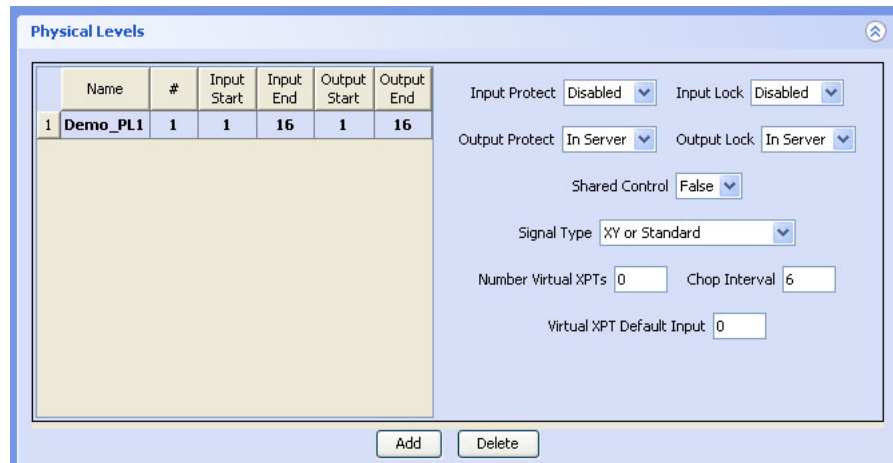

Figure 7-22. Physical Level Section — Levels Area
- 3 The 'Physical Levels' section has two parts, as shown in Figure 7-22. On the left is a table of physical levels. On the right are miscellaneous parameters and options.